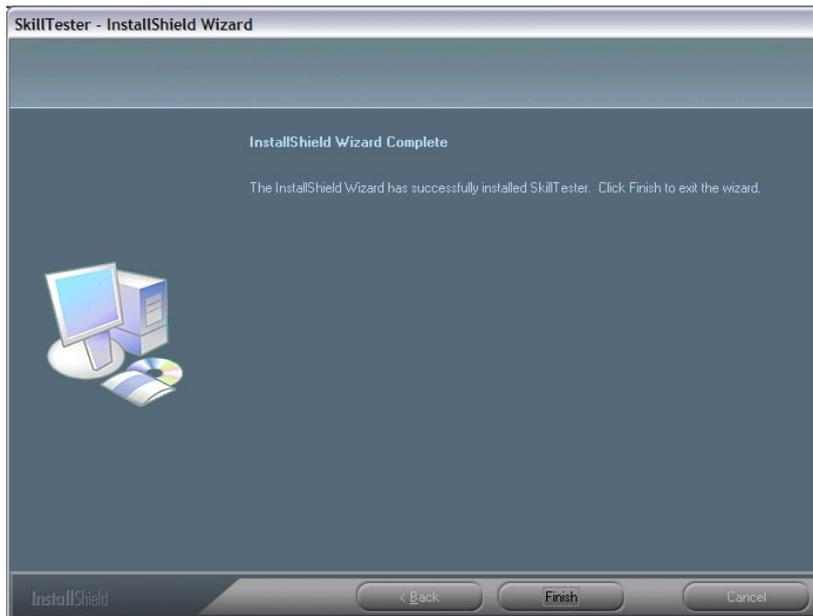

Figure 14 (end of SKILL ORGANIZER installation)
2. Follow the steps of the guided installation through to the end (ref. **Figure 14 (end of SKILL ORGANIZER installation)**)